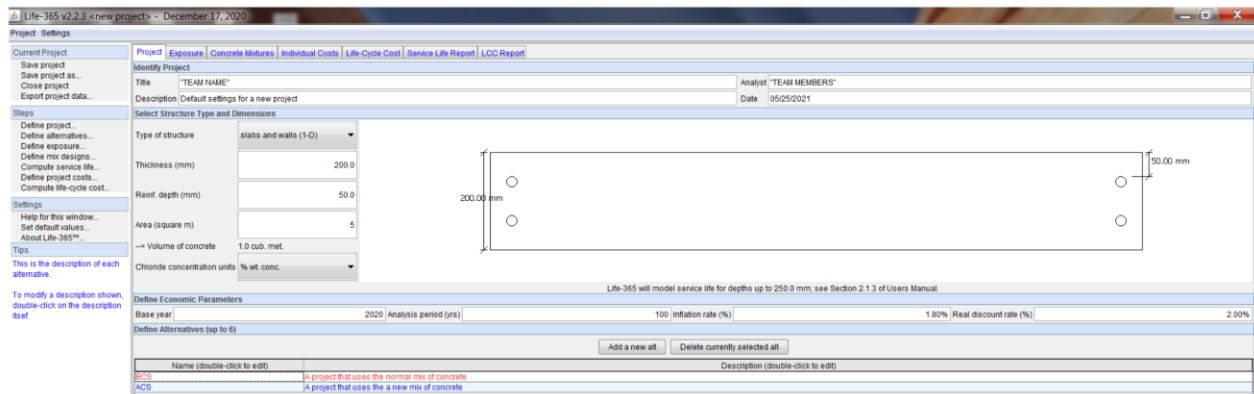

Figure 2: Overview of the “Project” tab in Life Life-365™ software
i. Under the first tab, “Project” (See Figure 2):